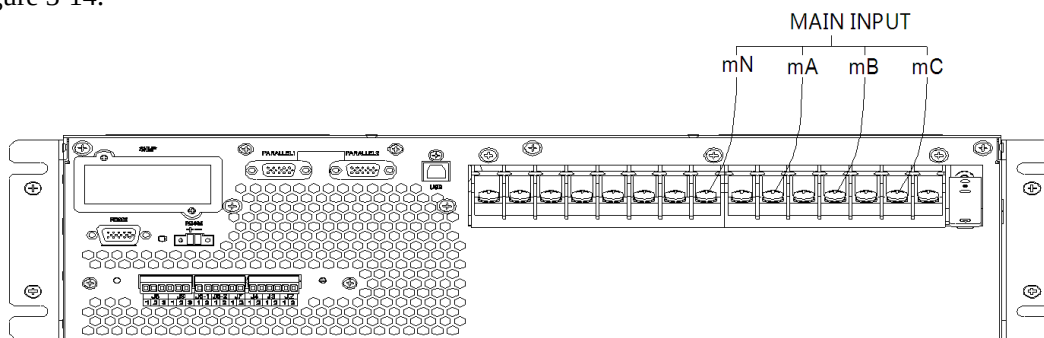

Figure 3-14 Main line input connection diagram
a. Remove all copper bars, connect input cable only (no bypass/output/battery).As shown in Figure 3-14.